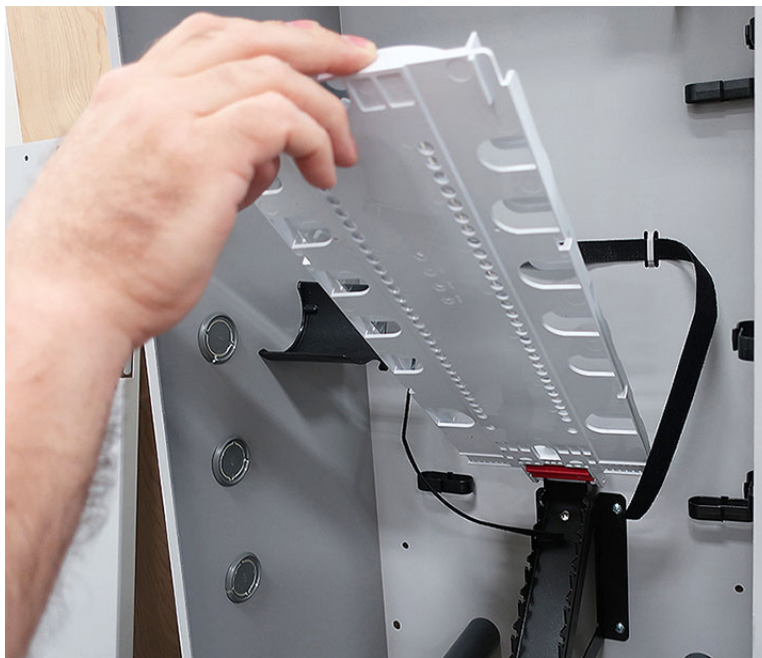

Figure 16. Inserting the Splice Tray in the Tray Holder Bracket
2. Hold the splice tray vertically over the tray holder bracket, and insert the tray hinge into the designated slot on the tray holder bracket. Lift the red tray support latch up to lower the tray. Refer to Figure 16.